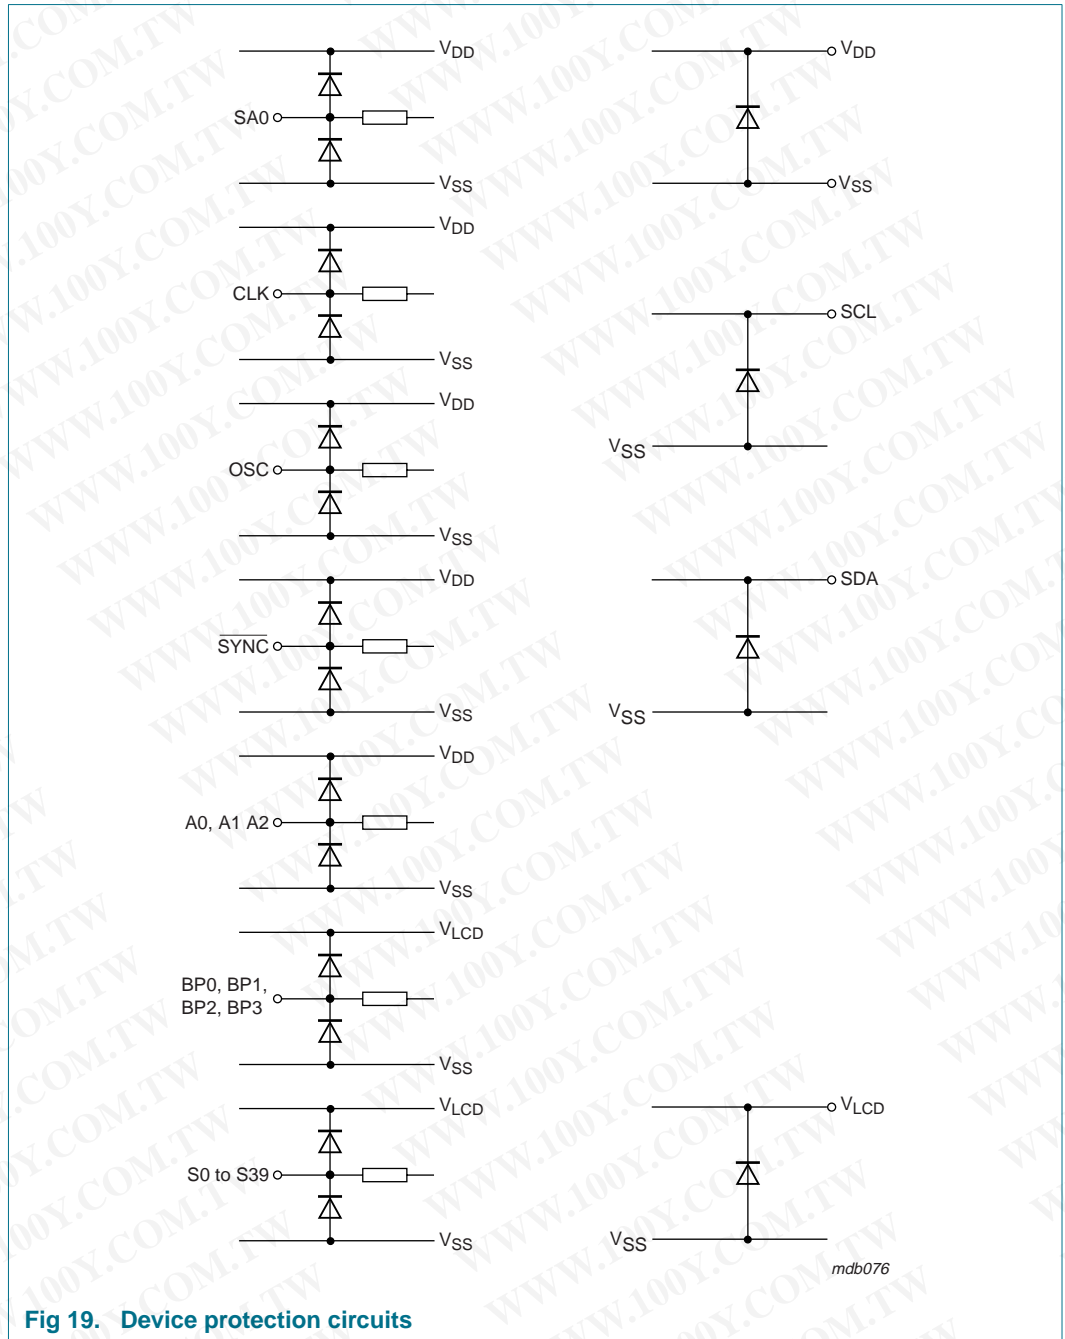

Fig 19. Device protection circuits
- [3] When tested, I²C pins SCL and SDA have no diode to V_{DD} and may be driven to the V_I limiting values given in Table 14 (see Figure 19 too).